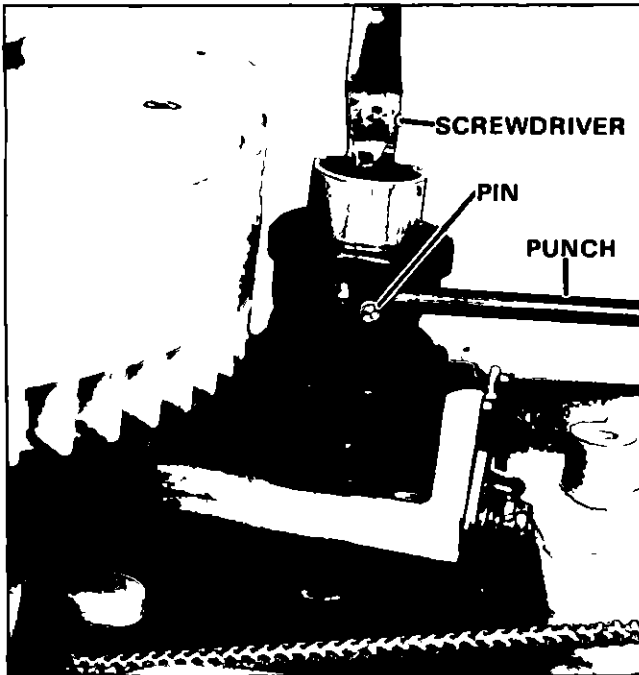

Figure 2. Removing Screw.
- A Keep shaft from turning by holding a punch against pinion pin Figure 2